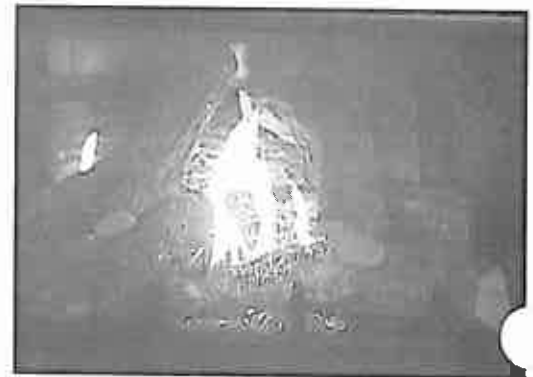

Figure 30 - Flame Patterns (60 Series shown)
- a. Check the flame of the burner periodically, making sure the flames are steady, not lifting or floating. See Figure 30. The flame color should be blue with yellow tips. The ignitor (electronic) or thermopile and thermocouple (standing pilot) tips should be covered with flame. See Figures 27-29.
If the vent configuration is installed incorrectly, the vent may cause the flames inside the appliance to lift or "ghost" - a dangerous situation. Inspect the flames after installation to ensure proper performance. See Figure 30. If the vent configuration is correct, yet the flames are lifting or ghosting, shut off gas to the appliance and contact the dealer.